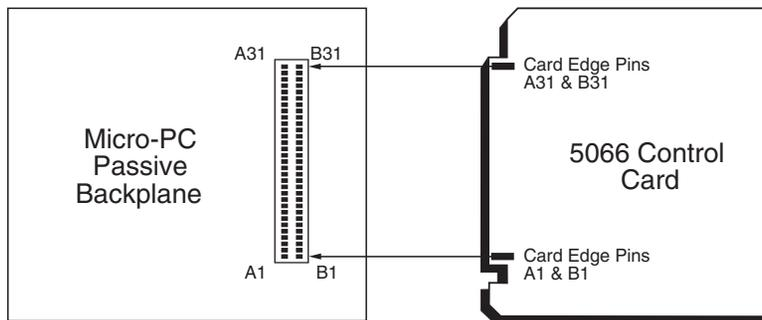

Figure 2-2 – Edge Connector Orientation
Take care to correctly position the 5066 card in the card cage. The VCC and ground signals must match those on the backplane. Figure 2-2 shows the relative positions of the 5066 card as it is installed in the card cage.
2. Insert the 5066 into a connector on the backplane. Take care to correctly position the card's edge with the connector of the backplane. Figure 2-2 shows the relative positions of the 5066 card as it is installed into a backplane.